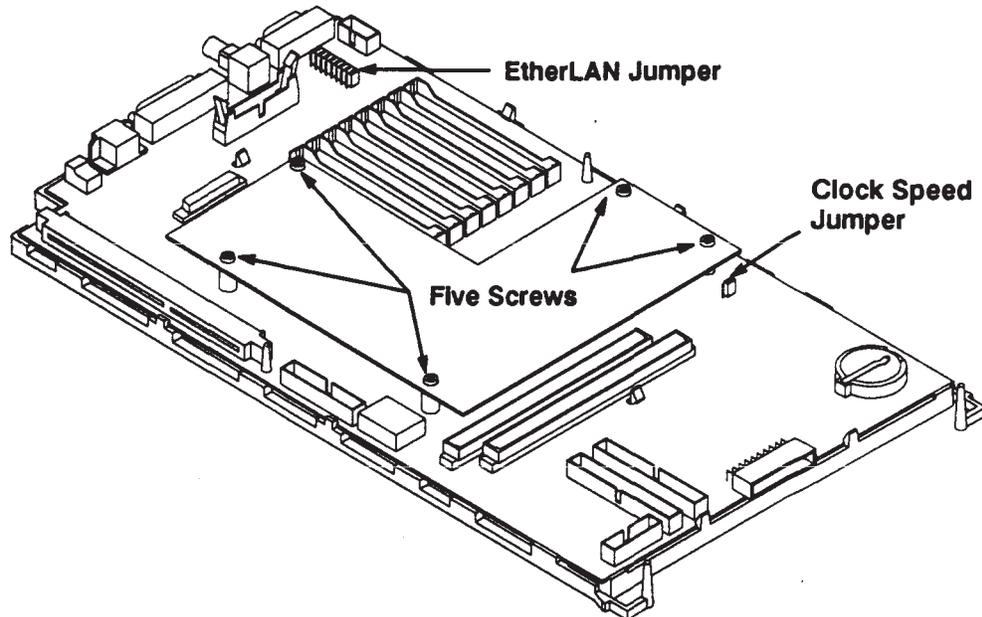

Figure 5-12. CPU Board Component Locations (Model 400t and 400dl)
6. Note the jumper settings for the EtherLAN port and the clock speed on the CPU board. Set the jumpers on the new CPU board accordingly (see Figure 5-12). For more information about the jumper settings on the CPU board, refer to Appendix A.
7. Remove the emulator board from the defective CPU board and install it on the new CPU board. Remove the five screws (see Figure 5-12), then carefully lift the emulator board to disengage the IC pins from the socket on the CPU board. Seat the emulator board on the new CPU board by carefully inserting the IC pins of the emulator board into the socket on the CPU board. Install the five screws.